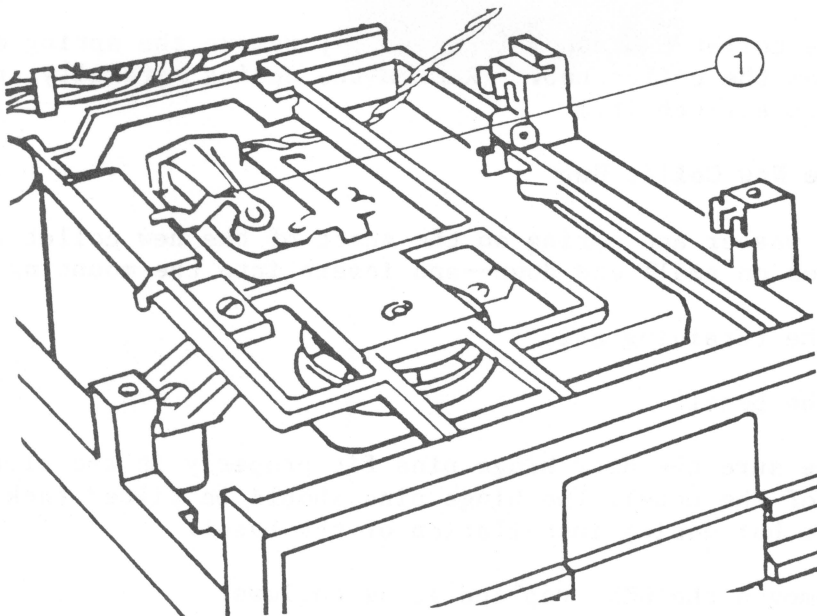

FIGURE 9
The head load button is a small round pad of white felt, mounted in the head load arm (Fig. 9, #1), that holds the diskette surface against the read-write head. The button should sit just above the center of the read-write head, with its surface parallel to the surface of the head.
1. Lift up the Head Load Arm (Figure 9, #1), squeeze the top part of the load button with small needle-nose pliers, and let the button drop down.